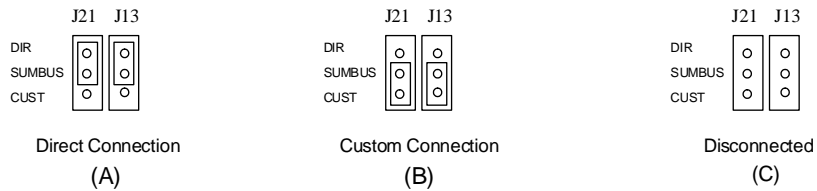

Figure 10. SUMBUS Jumper Settings
In order to use the SUMBUS signal, the jumpers J11 and J12 must be configured properly. The three different settings for the jumpers can be seen in Figure 10. The SUMBUS signal can be connected directly to the front panel (A), connected through the prototyping area (B), or disconnected (C).